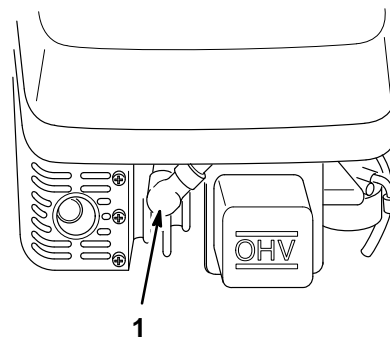

Figure 6
1. Pull the wire off of the spark plug (Fig. 6).
5. Connect the spark plug wire (Fig. 6).